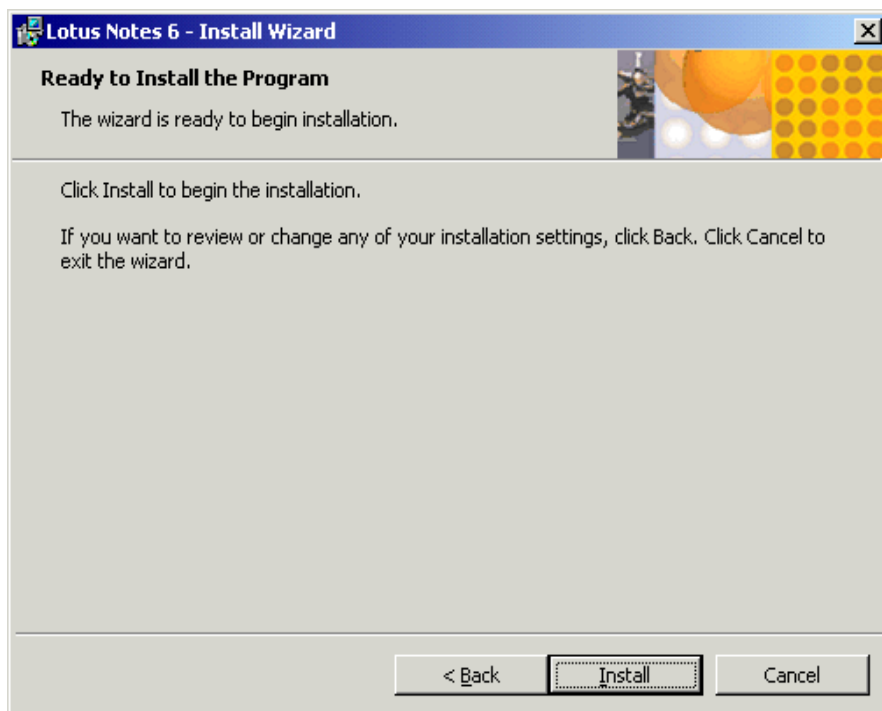

Figure 4-12 Install Wizard
5. Click **Next** once you are satisfied as to where you want your files installed. The next window is the Custom Setup window for the program features you want installed on your client. Once you (or your administrator) are satisfied with the chosen features, click **Next**. You will see a window similar to Figure 4-12.